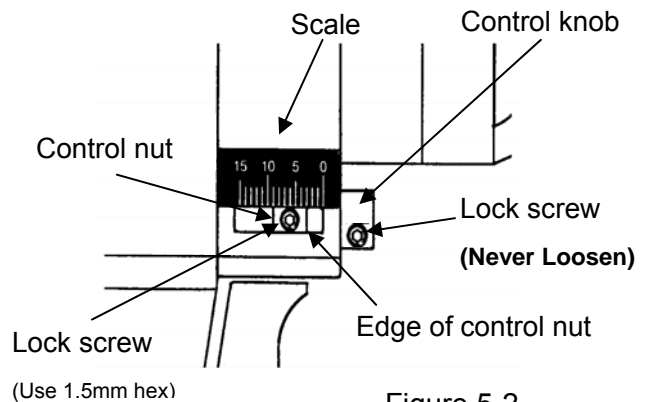

Figure 5-2
a) Loosen the M3 lock screw on the control nut using a 1.5mm hexagonal wrench. Adjust stroke by turning control knob clockwise to decrease and anti-clockwise to increase stroke. Stroke, E is indicated by the right edge of control nut. Tighten the lock screw (Figure 5-2). Note: **Never** loosen the lock screw on the control knob, as this will disturb the stroke.